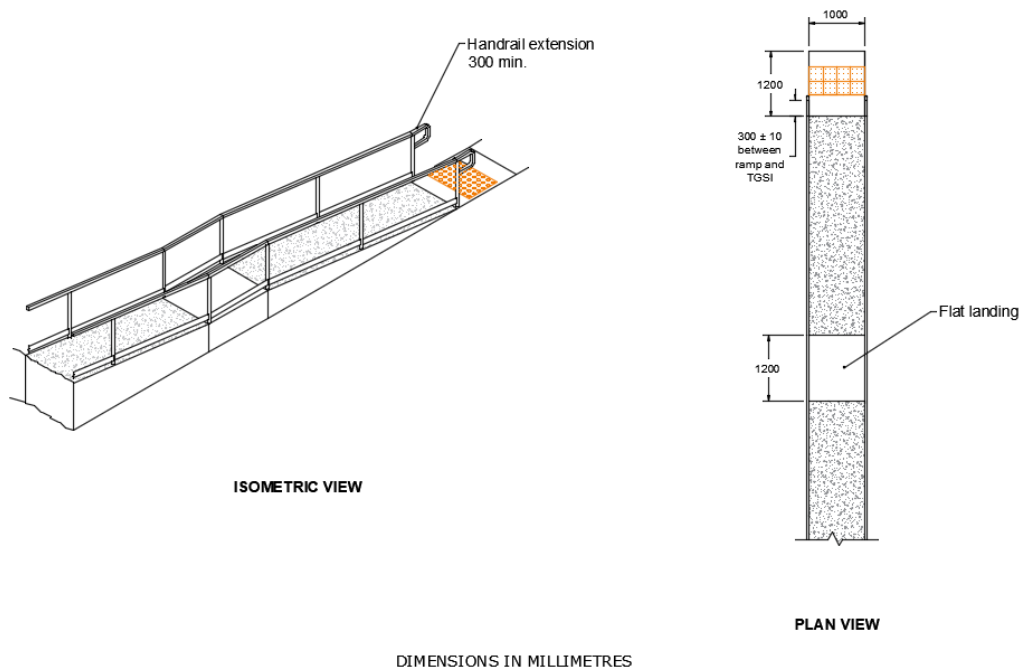

Figure 3: Ramps and landing with no change in direction
- (b) Power outlets Except as elsewhere described, GPOs shall be located at a height of not less than 600 mm, with a preferred height of 1000 mm, above the finished floor and in line with the door handles. GPOs shall be located not less than 500 mm horizontally from internal corners. (See Figure 3)